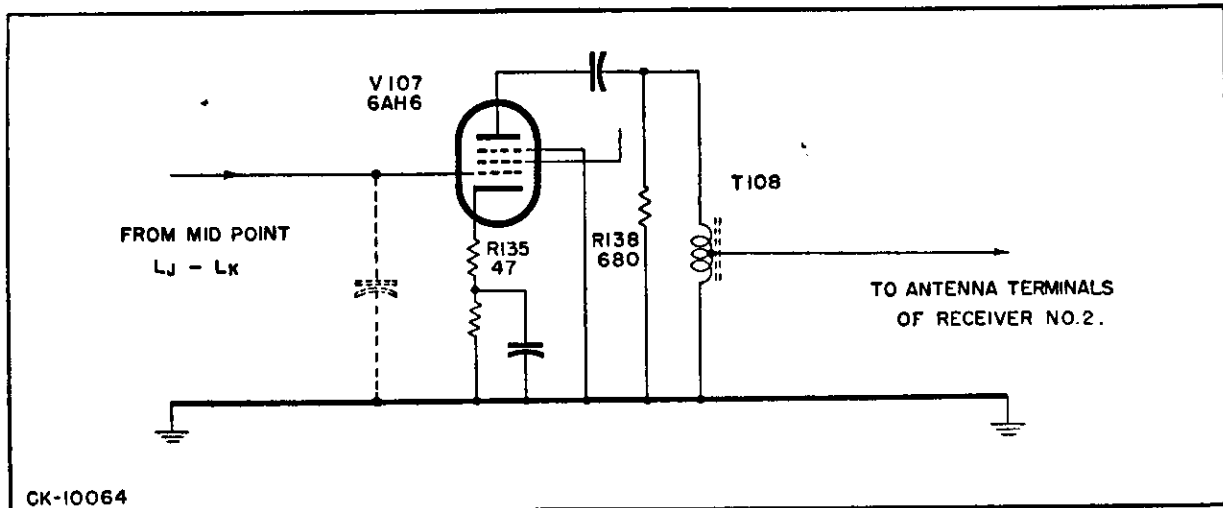

Figure 2-3. TYPICAL OUTPUT STAGE
c. A typical output stage is shown in Figure 2-3. It employs a 6AH6 pentode type tube for isolation purposes. Cathode feedback resistor R135 is used to improve spurious signal response and to minimize the adverse gain effects in the tube as a result of aging. Transformer coupling is used between the plate circuit and the output jack.